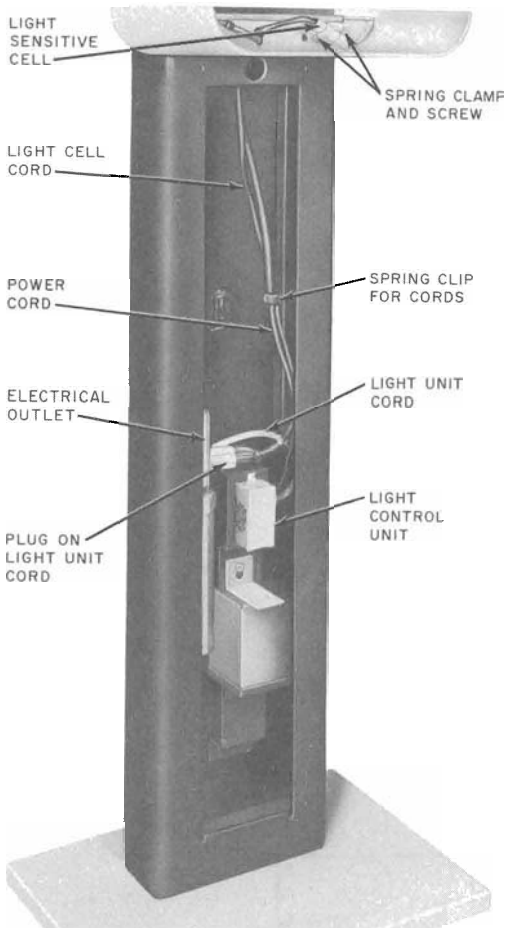
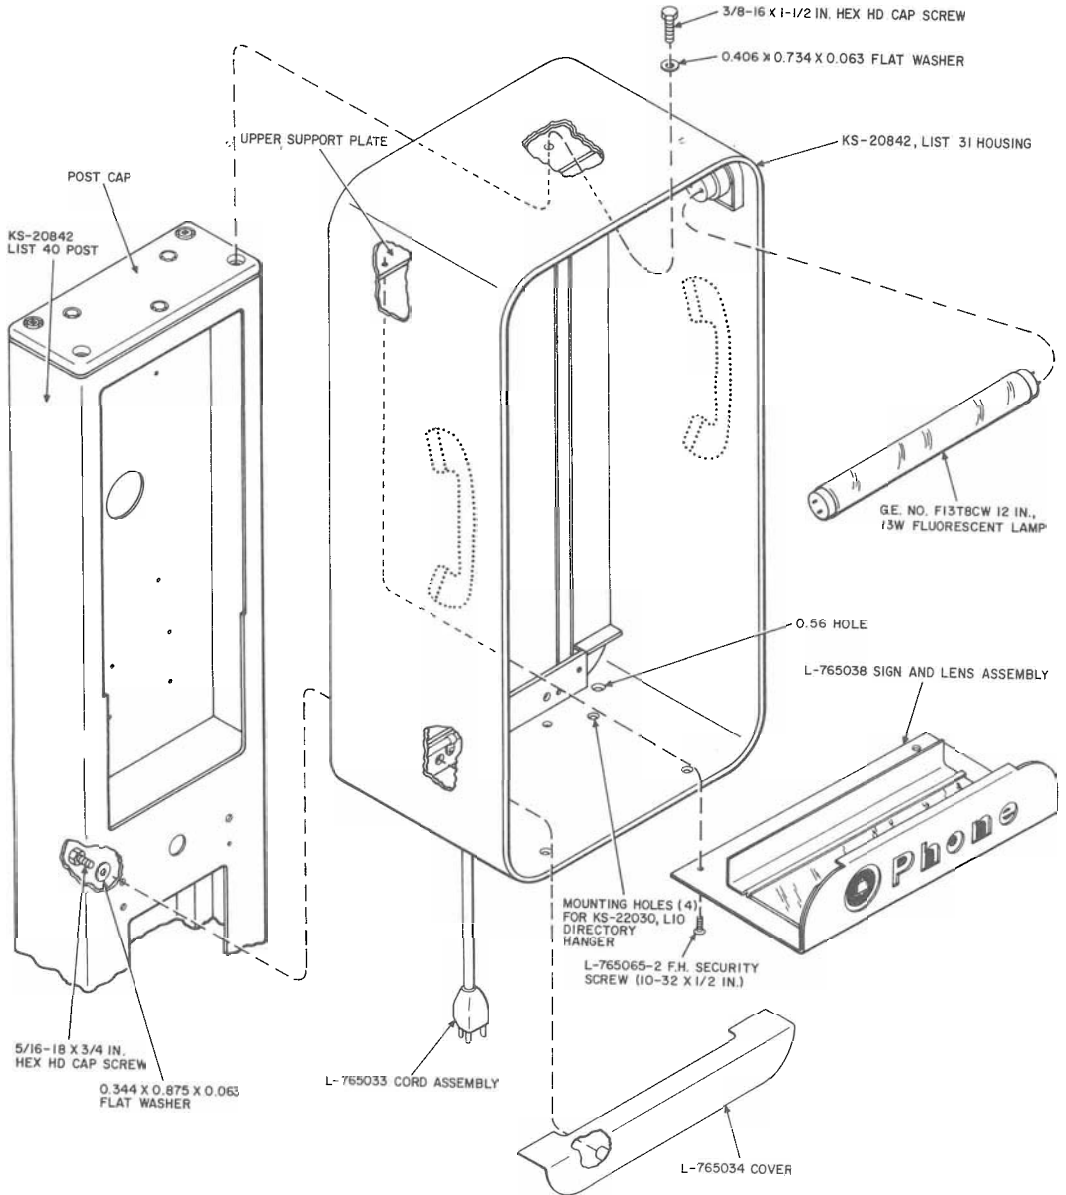

Fig. 8—Installation of KS-19261, List 4 Light Control Unit
Fig. 11—Installing List 31 Housing on Post
- (1) Remove the two screws and washers and the L-765034 cover from the lower part of the KS-20842, List 31 housing (Fig. 11).
- (2) Install the light control unit on the mounting bracket inside the post assembly and secure using the two 6-32 by 1/4 Phillips pan head screws (Fig. 8).
- (3) Insert the light sensitive cell, from inside the post, through the keyhole in the lower part of the housing.
- (4) Using the two clamps and two 8-32 by 1/4 Phillips pan head screws, secure the light cell to the housing as shown in Fig. 8. Position the end of the cell so that it will just touch the edge of the 0.56 hole (Fig. 11) in the bottom of the housing.
- (5) Remove the power cord from the electrical outlet.
- (6) Plug the light unit cord into the electrical outlet.
- (7) Insert the power cord into the rear of the light unit plug.
- (8) Press both the power cord and the light cell cord into the spring clip inside the post.
- (9) Install the L-765034 cover in the lower part of the housing using the two 5/16-18 by 3/4 hex head cap screws and two 0.344 by 0.875 by 0.063 flatwashers removed in (1). Reach in through opening on post and insert the screws through the post, through the housing, and into the rear of the cover (Fig. 11).
3.16 When the KS-20842, List 31 housing is used, install a KS-20030, List 10 directory hanger to the bottom of the housing using the four L-765065-2 flat head security screws (No. 10-32 by 1/2) and four No. 10 nylon-insert nuts supplied with the hanger and the KS-19192, List 1 wrench. See mounting holes on Fig. 11.